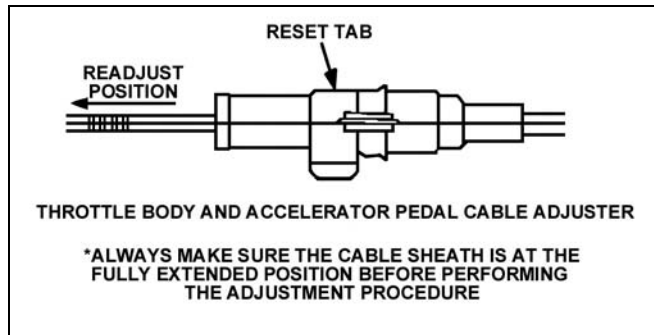

Figure 1
1. Depress the reset tab on the throttle body and accelerator pedal cables (Figures 1 & 2) and fully extend the cable sheaths.